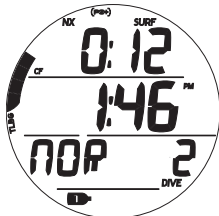

Fig. 29 - NORM SURF MAIN
Upon surfacing during dives, the Dive Main will remain on display for the first 10 minutes with Surface Interval time (SI) in place of Depth after which the post dive Surface Main will be displayed (Fig. 29).